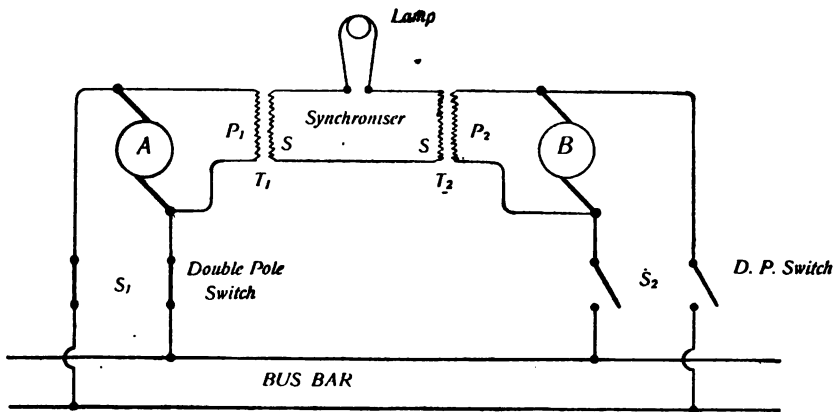

FIG. 71.—"Synchronising" Alternators.
**same frequency**, and be exactly in **unison**, **step**, or **phase**; *i.e.*, the positive and negative alternations of each machine must occur exactly at the same instant. The method of using a "synchroniser" in connection with the alternators is shown in *Fig. 71*. The alternator *A*., which is already feeding the main circuit, is shown connected up by means of a double pole switch to the "omnibus bars" on the switchboard. This alternator is likewise connected to the primary ( $P_1$ ) coil of a small transformer,  $T_1$  (the "synchroniser" is connected as a "shunt" to the main circuit), the secondary coil being connected in series with a lamp and the secondary coil of another transformer,  $T_2$ , whose primary coil,  $P_2$ , is connected up to a second alternator, *B*., which it is now desired to connect up to the "omnibus bar." The E.M.F. generated at any instant in the two secondary coils due to